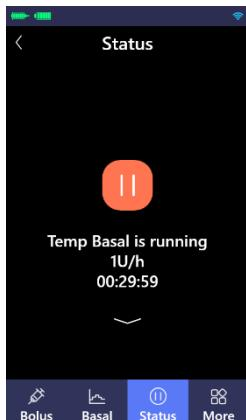

Figure A.13.2
(2) After the delivery at the temp basal starts, the status interface will display the current temp basal and the remaining delivery time (as shown in Figure A.13.2).